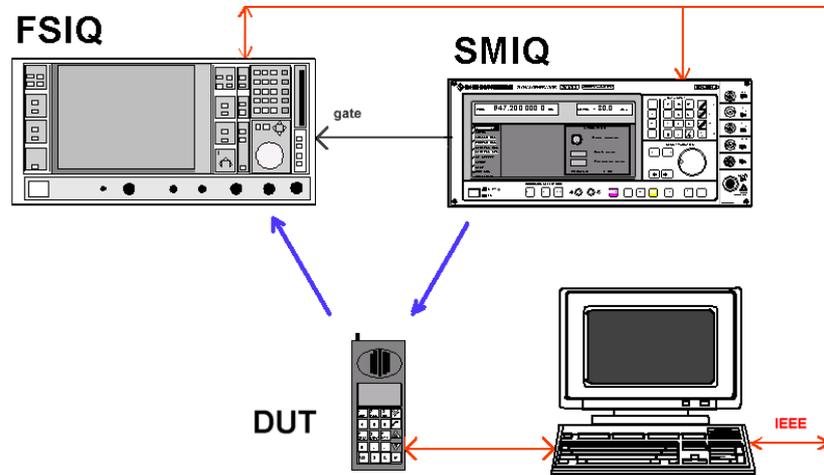

Fig. 11: Signal paths for bit error measurement with RF loopback
- The UT performs an internal **loopback** and returns the decoded bits as an **uplink signal**. The bits are **demodulated by FSIQ**, and read and evaluated by the production line computer. Fig. 11 shows the active signal paths for this method.
Fig. 11 shows the signal paths active with the UT returning bits in the RF loopback mode.